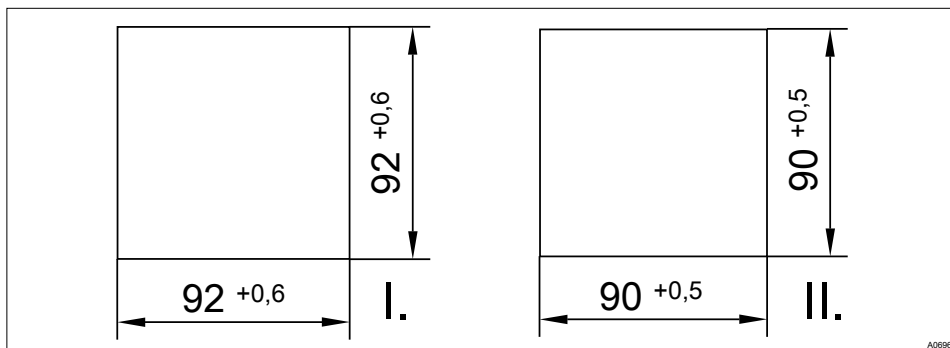

Fig. 16: Mounting - control panel installation DULCOMETER® D1Cc
- Use the dimensions according to Fig. 16 and mark on the control panel